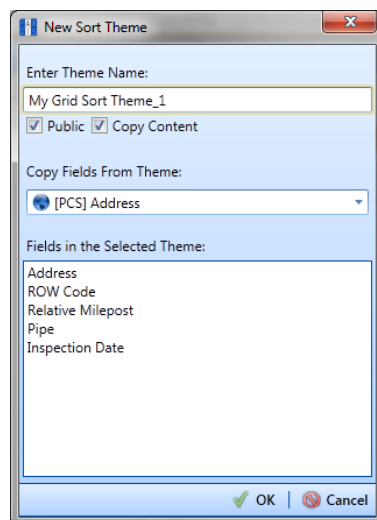

Figure 6-71. New Sort Theme
- 6 Click the  **Add** button to open the *New Sort Theme* dialog box (Figure 6-71).